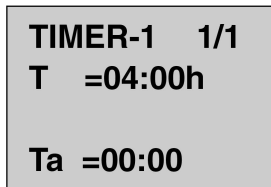

Fig. 6
6. Each timer has optional units of time in seconds (s), minutes (m), and hours (h). To change the unit of time use the left/right arrow keys ◀ or ▶ to move the cursor to the unit field. Change the unit of time using the arrow up/down keys ▲ or ▼. Once all the values have been set press **OK** to accept. (See figure 6)